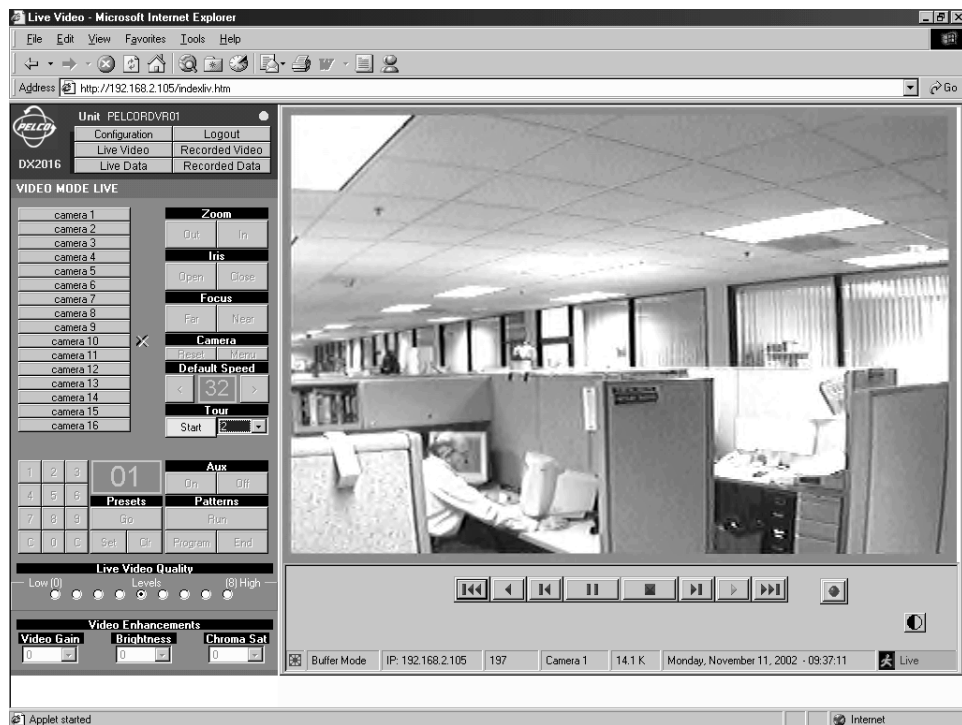

Figure 25. Live Video Screen
1. Click the **Live Video** button to view a live picture of the current camera. The system displays the Video Mode Live Screen (refer to Figure 25). You can use this screen to view a camera live and manually record the display to your PC's hard drive.